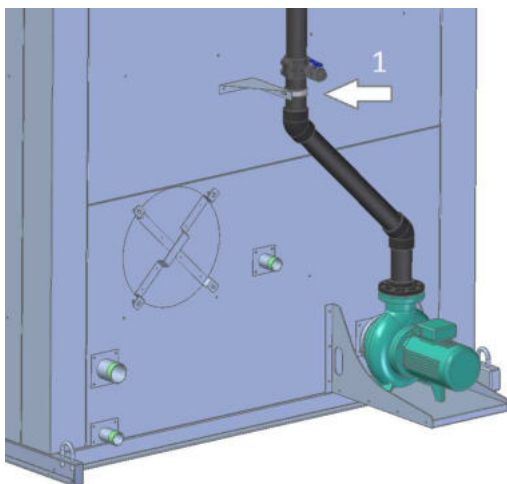
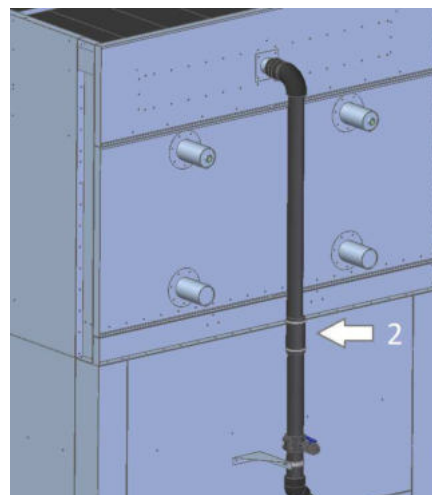

Fig.13a
Fig.13b
Finally position the delivery piping to the upper flange of the pump remembering to put the gasket, fix it to the frame of the unit by collar (1), fig.13a, supplied together with the piping and join it to the piping fixed to the upper section by the rubber pipe and the clamps (2), fig. 13b.